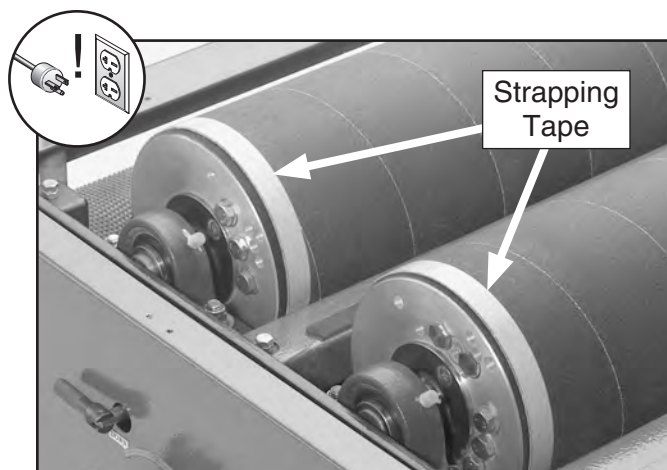

Figure 30. Strapping tape securing sandpaper roll to drums.
5. Tape both ends with 3/4" strapping tape, making at least two complete passes so second layer is directly on top of first (see **Figure 30**).